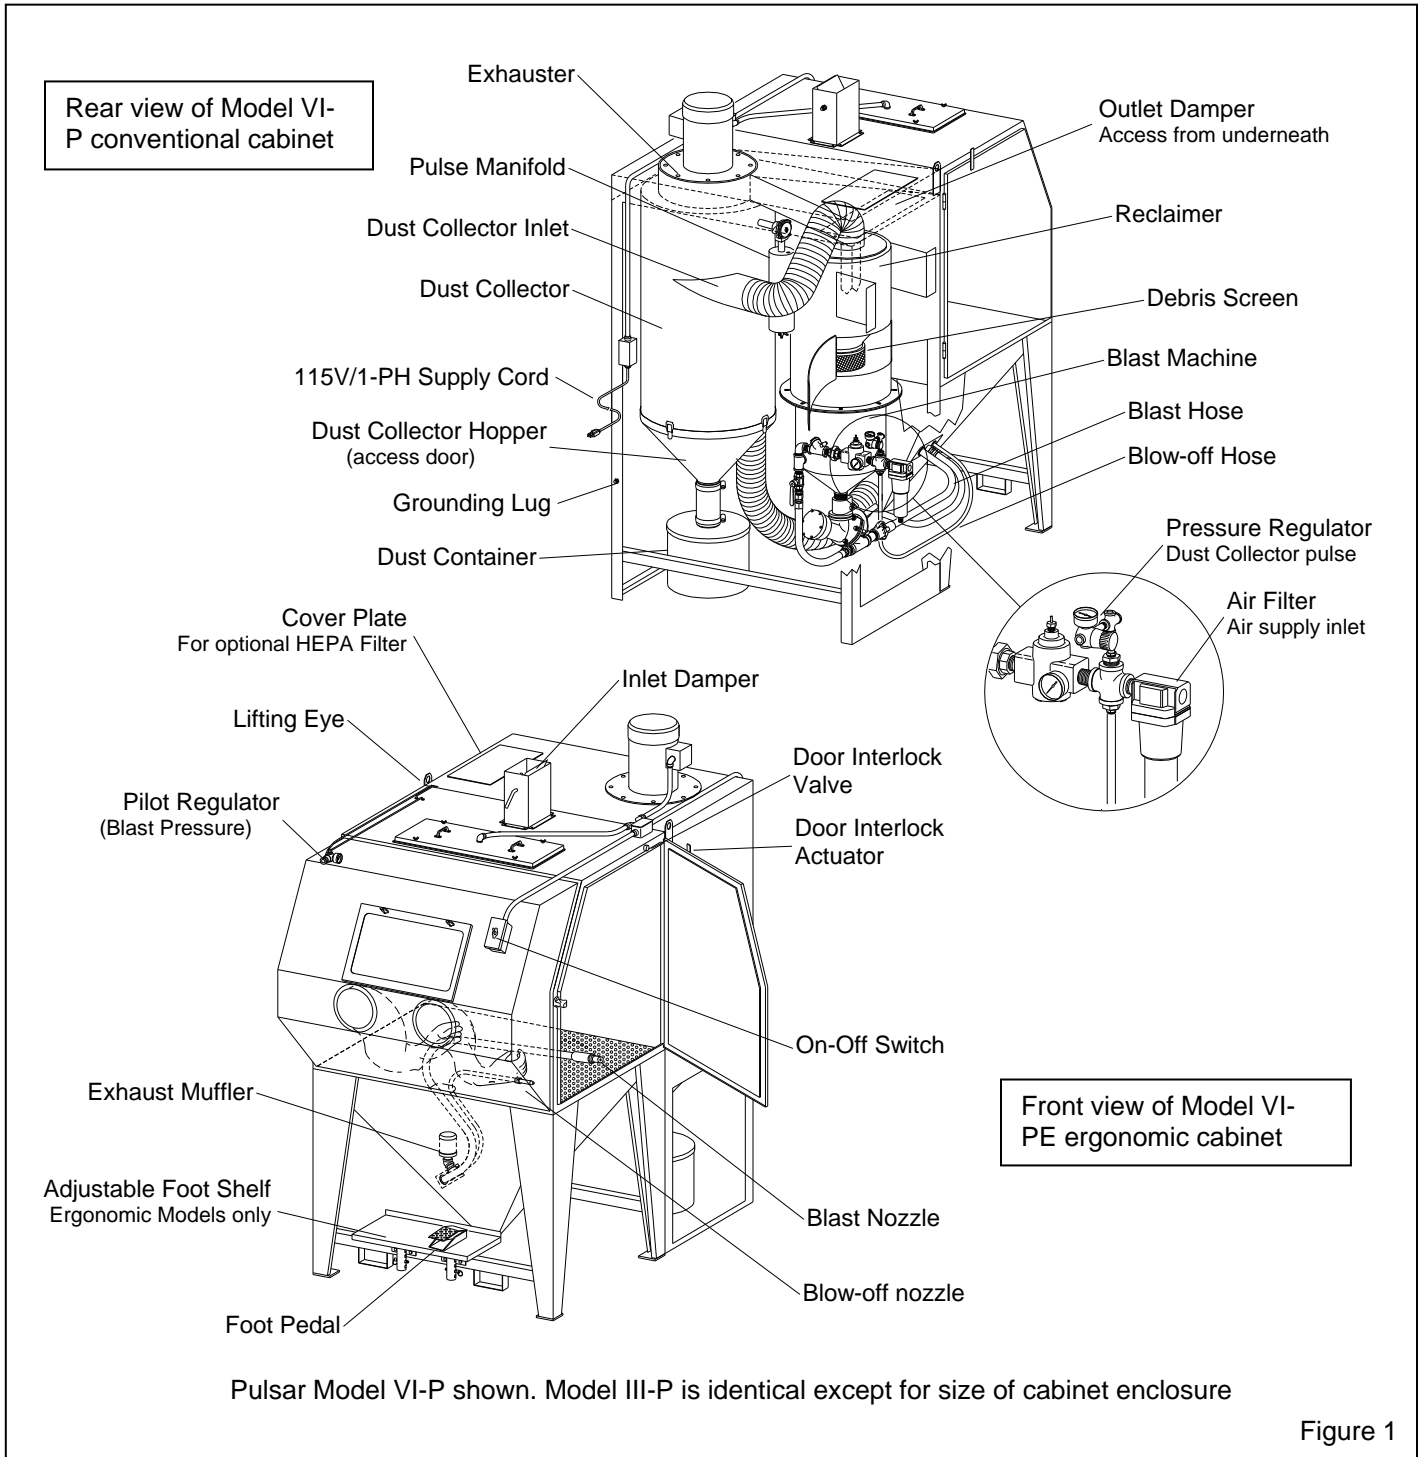

Figure 1
1.3.1 Pulsar® pressure cabinet encloses the blasting environment to provide efficient blasting while maintaining a clean surrounding work area. Production rates are influenced by size of nozzle, compressor output, working pressure, type and size of media, and angle and distance of the nozzle from the blast surface. See Figure 1 for arrangement of components. Pulsar pressure cabinets consist of two major components: